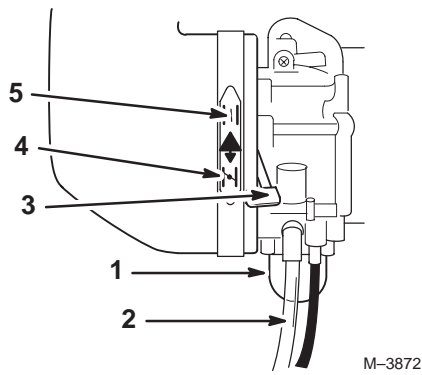

Figure 7
1. Pump the primer bulb on the side of the carburetor until you see fuel flowing through the fuel-return line (Fig. 7).
6. When the engine has started, slowly move the choke lever fully upward to the open position (Fig. 7). Allow the engine to warm up at less than 1/2 speed.